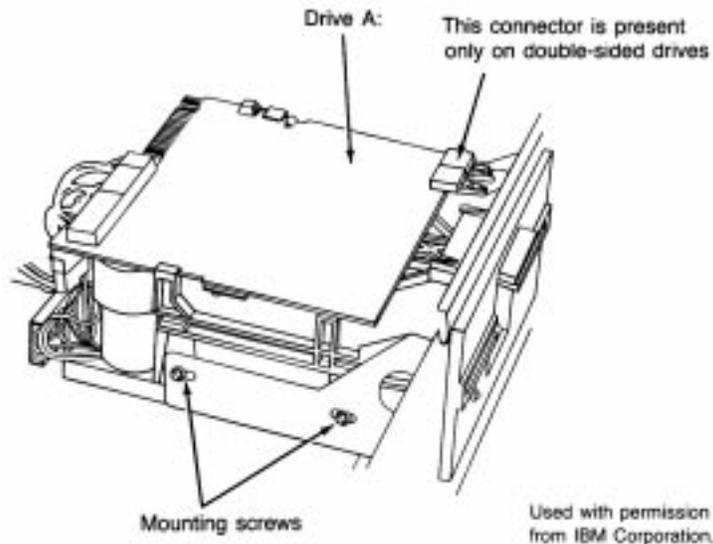

Fig. 3.4
2. Set the chassis flat on the table and locate the drive-retaining screws on the outboard sides of the drive. Remove these screws (see figs. 3.4 and 3.5).